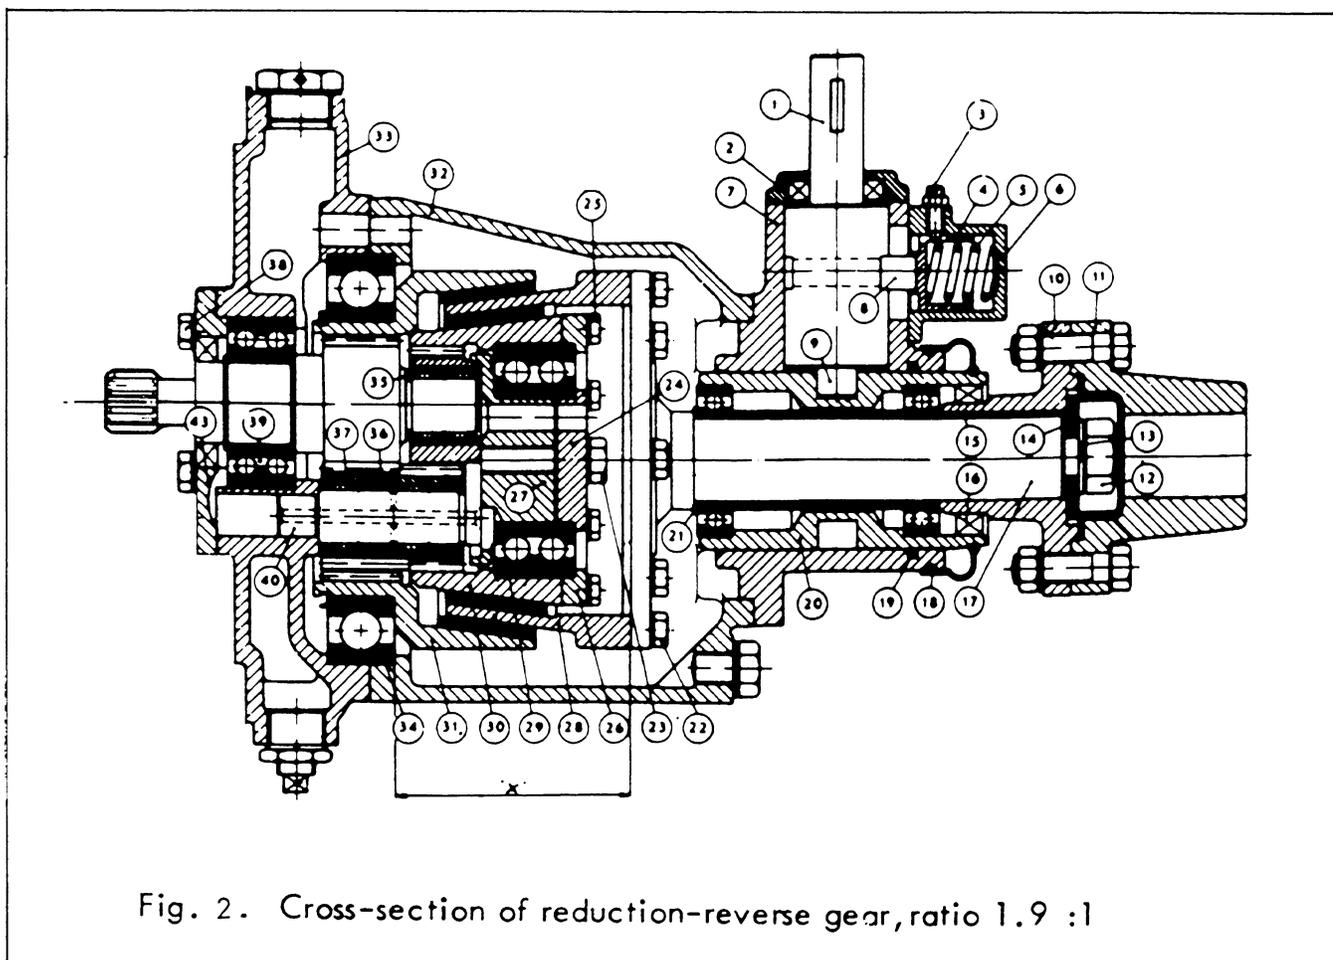

Fig. 2. Cross-section of reduction-reverse gear, ratio 1.9 :1
The repair instructions refer to Fig. 2 for ratio 1.9 :1.
3. Remove the bolt (12) and pull off the coupling flange (10). Also lift off the rubber protector (18). The key (15) need not be removed.
4. Remove the reverse gear lever from the control shaft (1). Then remove the cover (2). Pull out the control shaft (1) and the eccentric stud (9) (note the position of the stud which has marked sides).
5. Remove the bolts which secure the reverse gear housing (32) to the casing (33). Part the casing from the housing by means of light blows with a mallet.
6. Remove the bolts (22) and take out the shaft (17) with the sleeve (20).
8. Remove the bolts (23) and the washer (24). Place one of the bolts (23) in the center hole of the support bearing (27) and pull off the gear wheel (30). If the ball bearing (29) is to be removed from the gear wheel, remove the bolts (25) and the ring (26) after which the ball bearing is pressed out.
9. Lift out the cone (28).
10. Remove the gear wheel (31) with bearing (34) from the housing (33). For the reduction-reverse gear with ratio 1.9 :1, removing is made easier by tapping carefully on the bevelled side of the gear wheel (31),
11. See Fig. 2. Remove the bolts (38). The flange (44) need not be removed from the shaft. Press out the shaft (42) together with the cover (43) and the ball bearing. Pres-
12. Drive out the shaft (40) with the gear wheel (37) and the bearing (36). With regard to taking care of the bearings, see point 11.
13. See Fig. 2. Removal of flange (44) and bearing (3) from the shaft (42) should be done in a press after the locking flange has been removed. Pressure must not be applied to the outer circumference of the flange (44).
See Fig. 2. Friction lining wear on the gear wheel (31), which is most subjected to wear, is compensated for by increasing the thickness of the shim (21) as follows: Place the cone (28) in the gear wheel (31) and measure the distance "X" shown in Fig.4. The amount by which the measurement "X" is less than 85mm (3.35") determines how much the thickness of the shim (21) shall be increased. For example, if the distance measures 83mm (3.29"), then a 2mm (0.08") thick shim should be fitted. If the wear is so great that the measurement "X" is less than 81mm (3.19"), then the worn parts must be replaced. The friction linings in the gear wheel and cone are not interchangeable.
1. Fit the bearing (36) and the gear wheel (37), also press the shaft into the housing.
2. Fit the gear wheel (31) with bearing (34) into the housing (33).
3. See Fig. 2. Fit together the shaft (42), bearing (39), cover (43) and the flange (44) into one unit. The ball bearing (39) is fitted so that the recess on one side of the bearing (Fig.7) faces opposite the teeth on the shaft (42). If the sealing ring in the cover (43) shows the least sign of damage or if it has been removed from the cover, it should be replaced by a new one. A protecting sleeve should be used to prevent damage to the sealing ring by the passage of the keyway in the shaft (42).
4. See Fig. 2. Fit the shaft unit into the housing (33). Take care to ensure that the gear wheel on the shaft (42) meshes with both gear wheels (37 and 31).
5. See Fig. 2. Fit the needle bearing (35).
6. Fit the cone (28) in the gear wheel (31).
7. Fit together the bearing support (27), bearing support (27), bearing (29), cover (24) and the gear wheel (30) into one unit and and tighten on the cover (24). The ball bearing is fitted so that the recess one side of the bearing faces away from the teeth on the gear wheel (30). The bearing support (27) and the washer are fitted so that the middle through hole comes upwards.
8. Place the unit in the cone (28).
9. Fit the shaft (17) and the sleeve (20) onto the cone (28).
10. Fit the reverse gear housing (32) over the assembled parts and tighten it onto the housing (33).
11. Fit the rubber protector (18) and the coupling flange (10). Before fitting check that the bolt (12) is well tightened and that the key (15) is properly bedded down in its keyway in the shaft (17).
12. Fit the flange (9), shaft (1), locking plunger (8), sleeve (4), spring (5) and the plunger housing (6). Oil the parts liberally before fitting. The flange (9) is fitted so that its sides marked "O" follow the longitudinal direction of the engine. Fit the reverse gear lever and check the movements of the lever from neutral to "Ahead" and "Astern" positions respectively, which should be equi-distant. If the movement in one direction is appreciably more than in the other direction, this is to be adjusted by turning the flange (9). This is shaped such that the center of the rectangular portion is offset in relation to the center of the cylindrical portion (guide). If the flange is fitted so that the projecting side faces forwards, the movement of the reverse gear lever from the "Ahead" position to "Neutral" is decreased. If the flange is turned half a turn so that the projecting side faces aft, the movement of the lever from "Neutral" to the "Astern" position is decreased.
13. Fit the reverse gear to the engine. Regarding the reverse gear with ratio 1.9 :1, fitting is facilitated if the rubber bushings on the driving studs (45) as well as the holes for these in the engine flywheel, are carefully coated with talc.